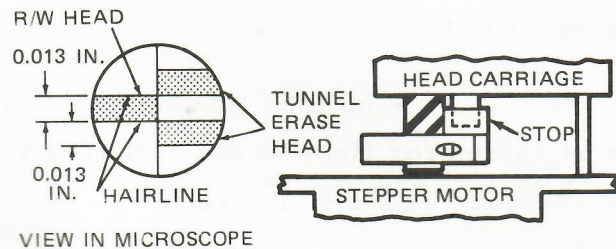

Figure 3-5. Head Carriage Outer Stop Position
- c. Rotate stepper motor lead screw manually, until head carriage is stopped by outer stop (see Figure 3-5).